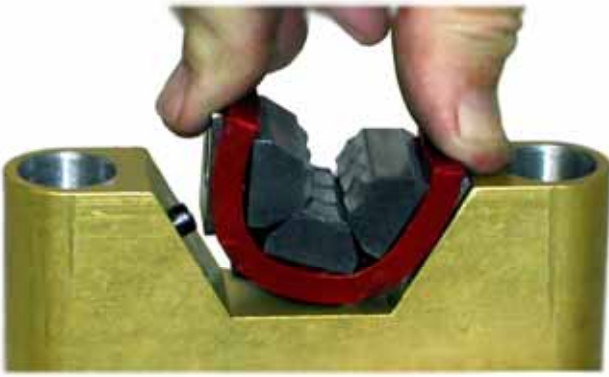

Figure 1
5. **DIE CHANGE**-Remove the bottom die holder from the crimper to expose the die halves. Simply squeeze the outer segments of each die half to remove it from the pins located on the die holder. (Refer to Fig. 1 & 2, Pg. 6)